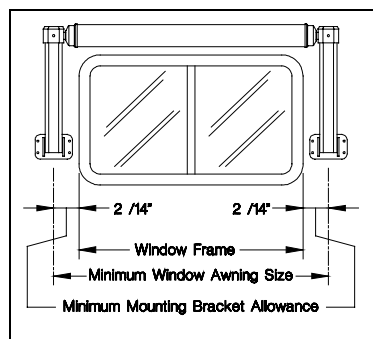

Figure 1
- Measure the width of the window including frame. Add an extra (2-1/4") to each side of the frame (4-1/2" total) to allow space for the mounting brackets. (Figure 1.)